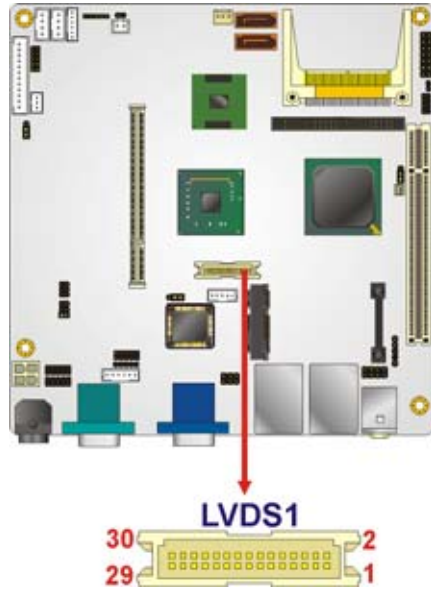

Figure 4-12: LVDS LCD Connector Pinout Locations
- CN Location:** See Figure 4-12